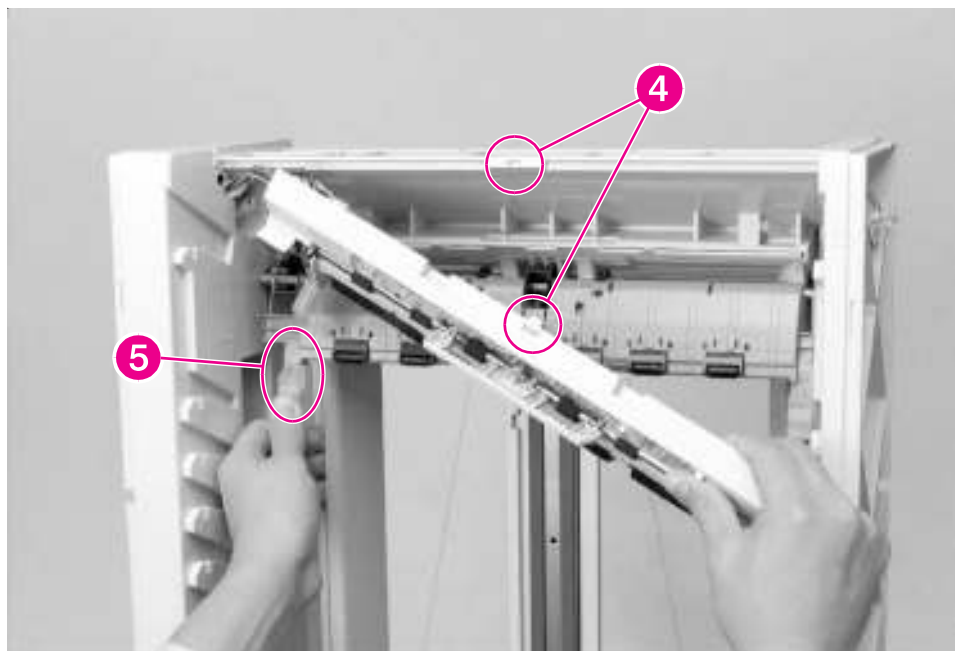

Figure 6-156 8-bin Mailbox Flipper Assembly (3 of 3)
- 6 Using a flat-blade screwdriver, release the plastic retaining tab that secures the Flipper Assembly to the top of the 8-bin Mailbox frame (Figure 6-156, callout 4).
- 7 Hold down the Jam Access Door, and pull out the Flipper Assembly (Figure 6-156, callout 5).